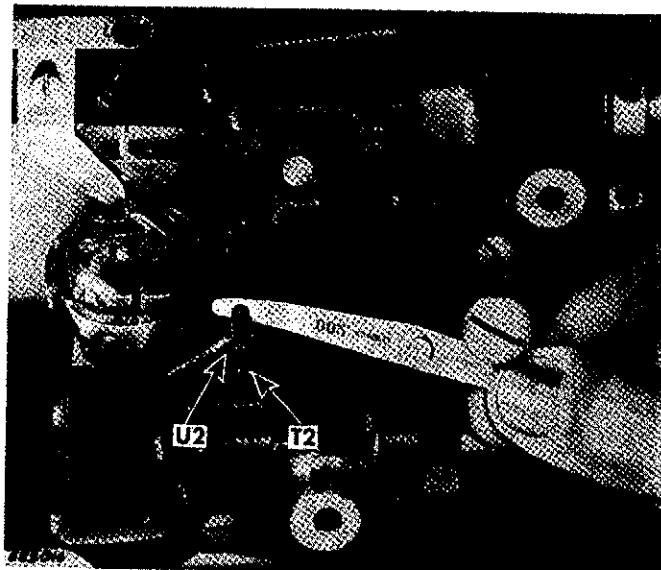

Fig. 41. Adjusting Clearance between Hook and Feed Dog
**CAUTION:** Stop screw T2, Fig. 41 should be set to prevent feed dog from coming in contact with hook assembly and causing serious damage to sewing hook and feed mechanism.
Loosen stop screw nut U2 and turn stop screw T2, Fig. 41 until top of screw just touches the feed, then back off on screw and maintain .005 inch clearance with feeler gauge, Serial No. 187928.